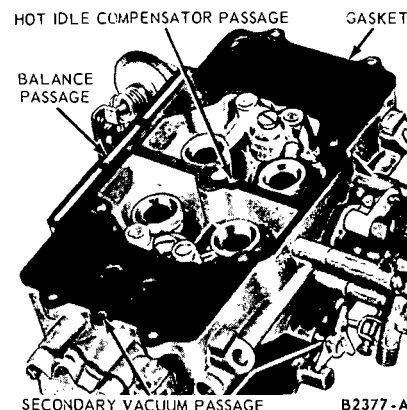

FIG. 27—Main Body Gasket Installation
5. Position the main body gasket on the main body (Fig. 27). Position the air horn on the main body and gasket so that the choke plate rod fits into the opening in the choke housing lever. Install the choke plate rod retainer. **Use care to prevent damage to the secondary throttle control vacuum tubes during the air horn installation.** Install the air horn retaining screws, lock washers and the carburetor identification tag. Tighten the screws.